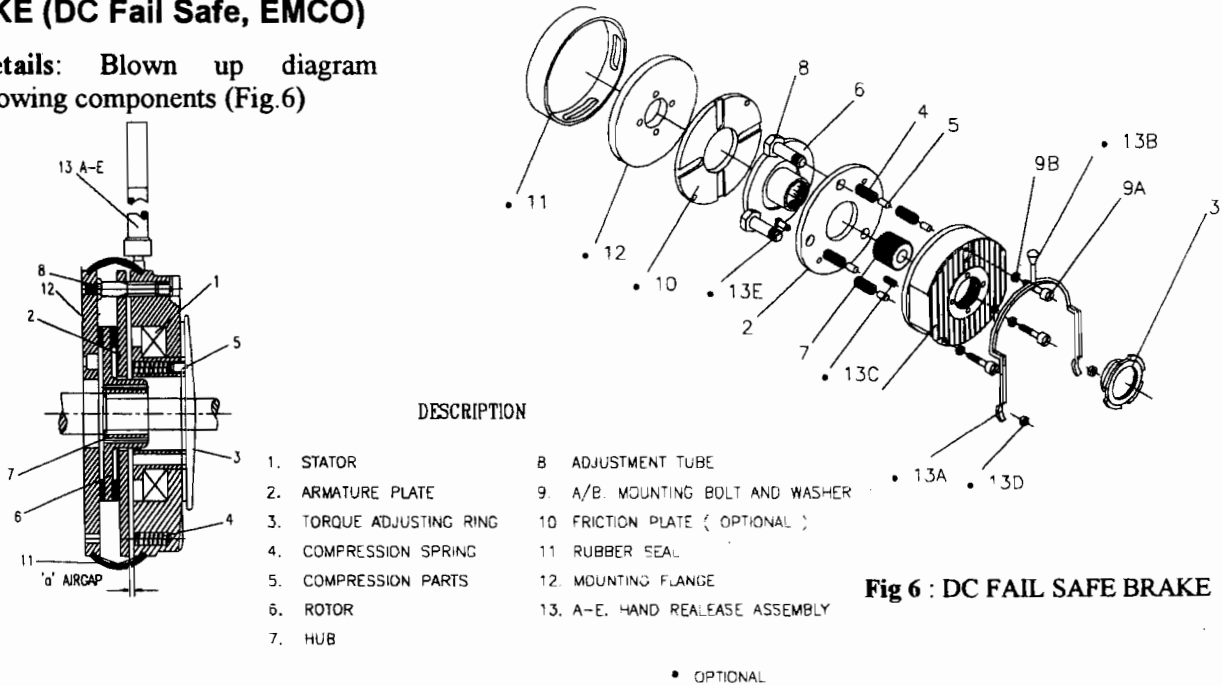

Fig 6 : DC FAIL SAFE BRAKE
a) Details: Blown up diagram showing components (Fig.6)